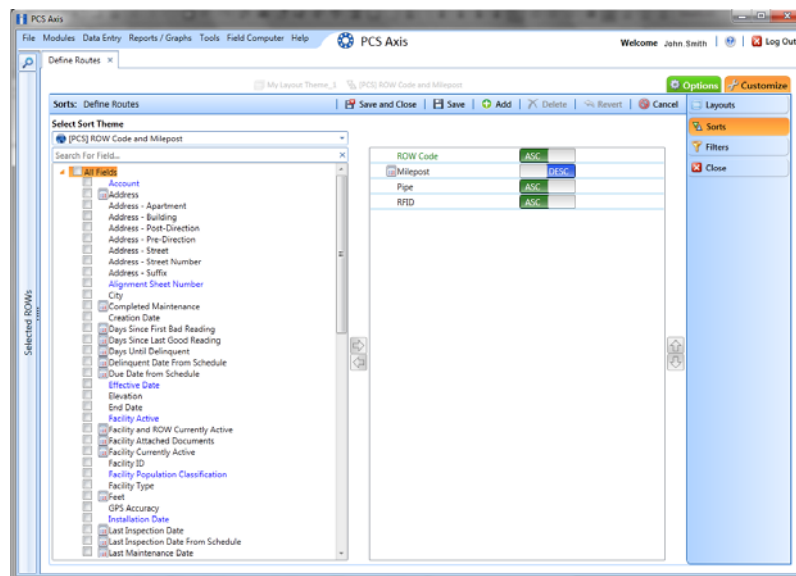

Figure 7-46. Sorts
- 3 Click the **Customize** tab , then the **Sorts** button  to open the *Sorts* page (Figure 7-46, page 334).